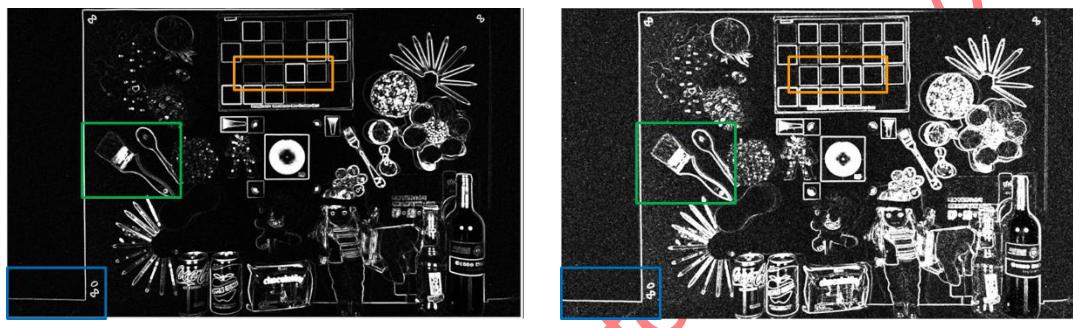

Fig. 5-98 Difference map results with different parameters (Difference curve & level).
- The effect of the difference map, as shown in Fig. 5-98. In general case, the